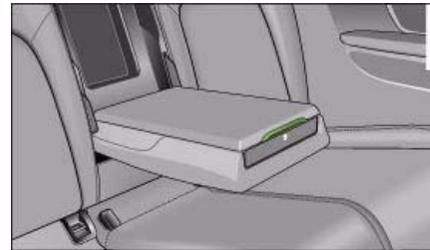

Fig. 265 Rear centre armrest: First-aid kit
- Pull up the catch to open the storage compartment ⇒ fig. 265.